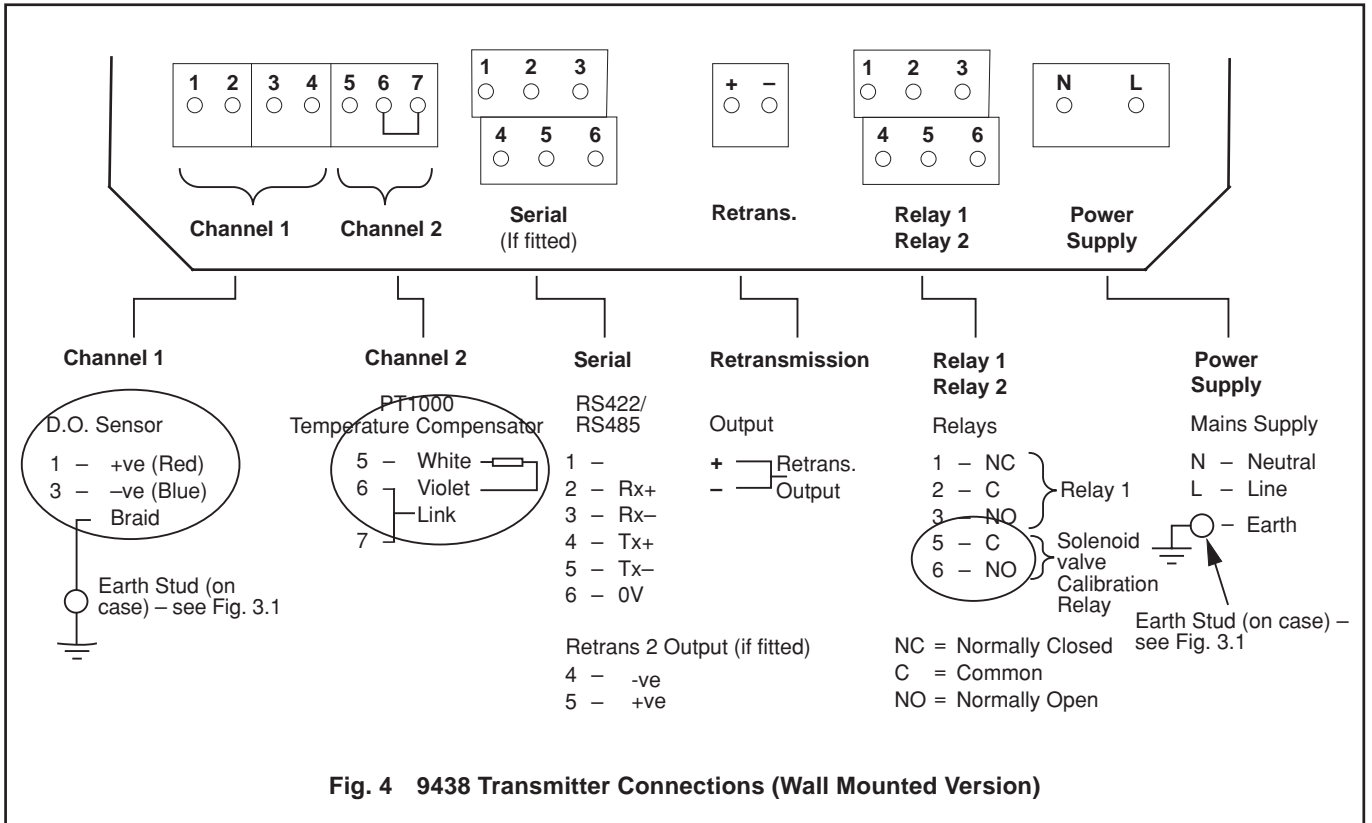

Fig. 4 9438 Transmitter Connections (Wall Mounted Version)
- 3) Wire the free end of the cable into the 9438 transmitter as shown in **Figs 4 and 5** (as appropriate) not forgetting the braid.